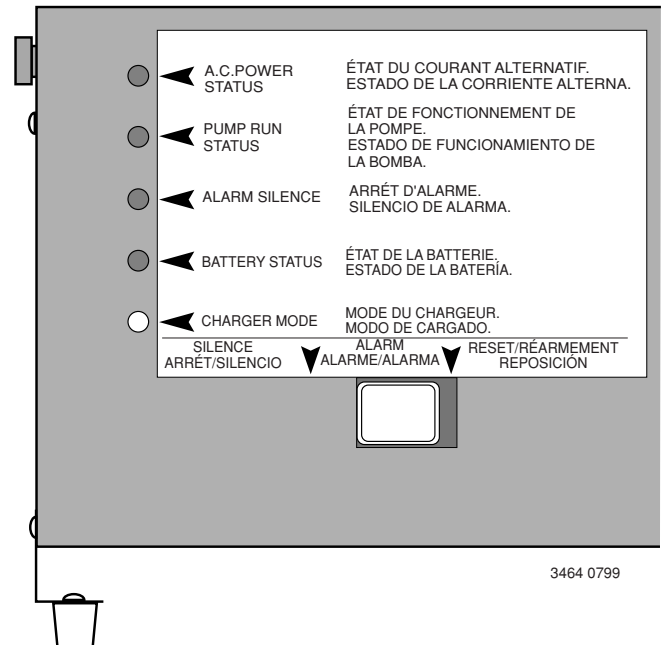

Figure 12 – DB20018T LED Panel
3. With the charger properly connected and plugged in, the panel on the front of the charger will show one or more of the following conditions (See Figure 12).